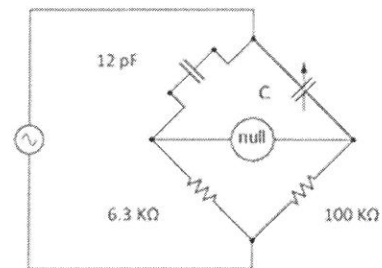

Figure B1
- a) The given bridge in Figure B1 is in null condition. The value of capacitor C is equal to